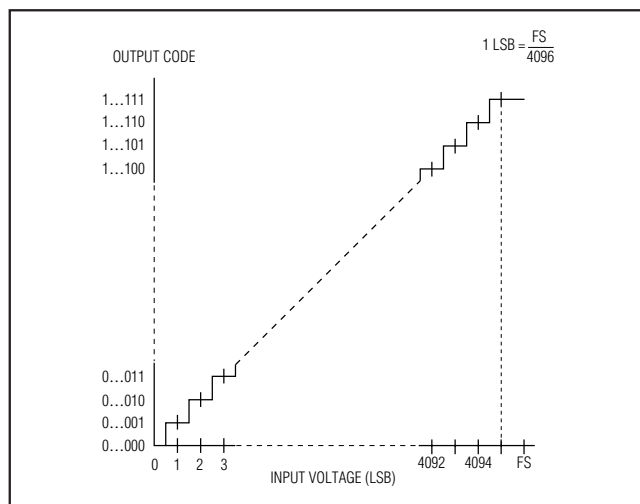

Figure 13a. Unipolar Transfer Function
Code transitions occur halfway between successive integer LSB values. Figures 13a and 13b show the input/output transfer functions for uni-polar and bipolar operations, respectively. For full-scale (FS) values, see Tables 2 and 3.